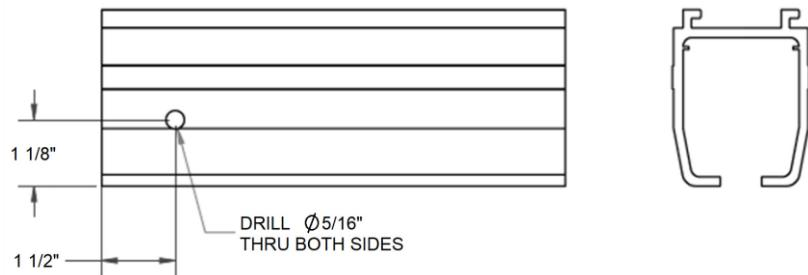

Figure 86: **Clevic Pin Hole Location**
2. Use a 5/16" bit to drill a hole at the marked spots for the clevis pin (see Figure 86).